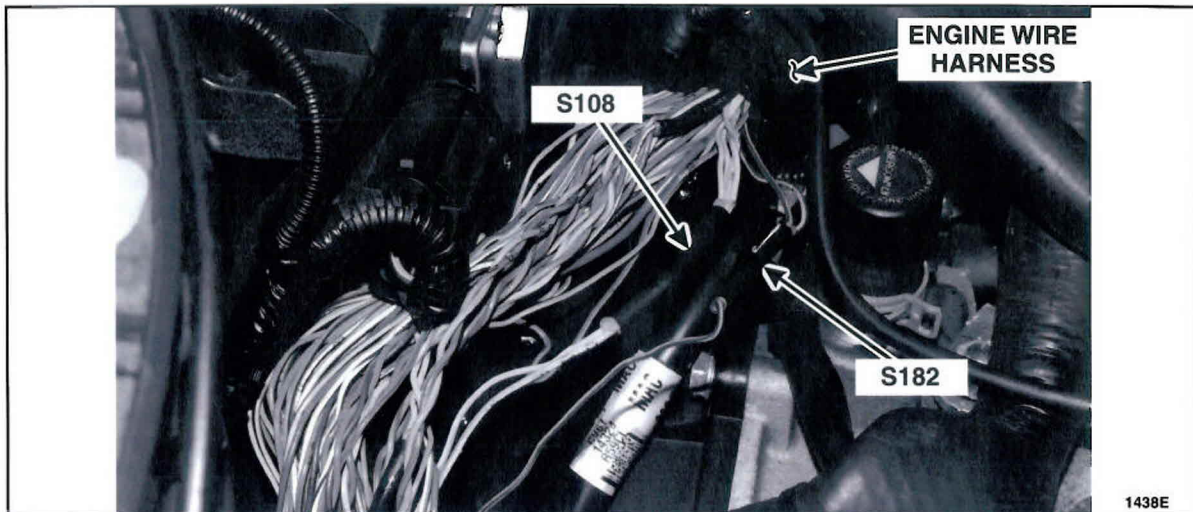

FIGURE 6
10. Locate splice S182 and S108. See Figure 6.
- S182 is a one (1) wire into two (2) wire splice with Gray/Brown wires.
- S108 is a two (2) wire into four (4) wire splice with Yellow/Green wires.